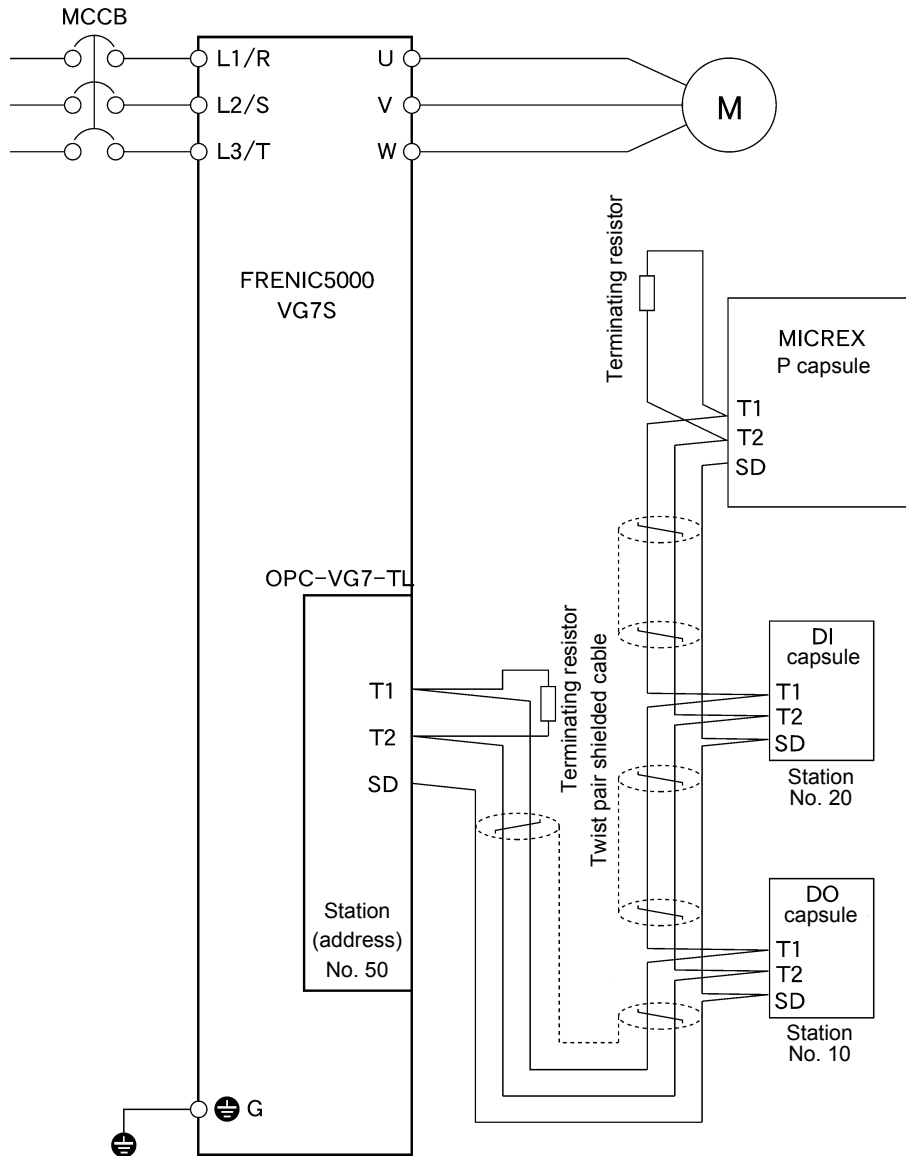

Fig. 7-120
- (2) Connect terminating resistors of  $100 \Omega$  accompanying the P capsule at both ends of the T-link.
- (3) Connect the T-link cable in a single loop as shown in the basic connection diagram (Fig. 7-120).